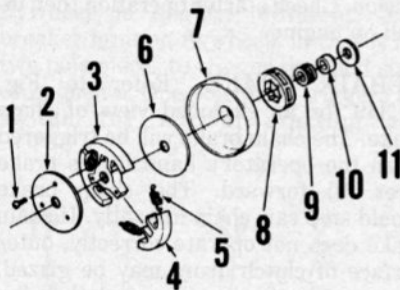

Fig. HL344—Exploded view of clutch.
CLUTCH. Refer to Fig. HL344 for an exploded view of clutch. Cover plate (2) is retained by Torx head screws (1). Clutch hub (3) has left-hand threads. Clutch shoes and springs should be renewed only as sets. Inspect bearing (9) and lubricate with Homelite All-Temp Multi-Purpose Grease.